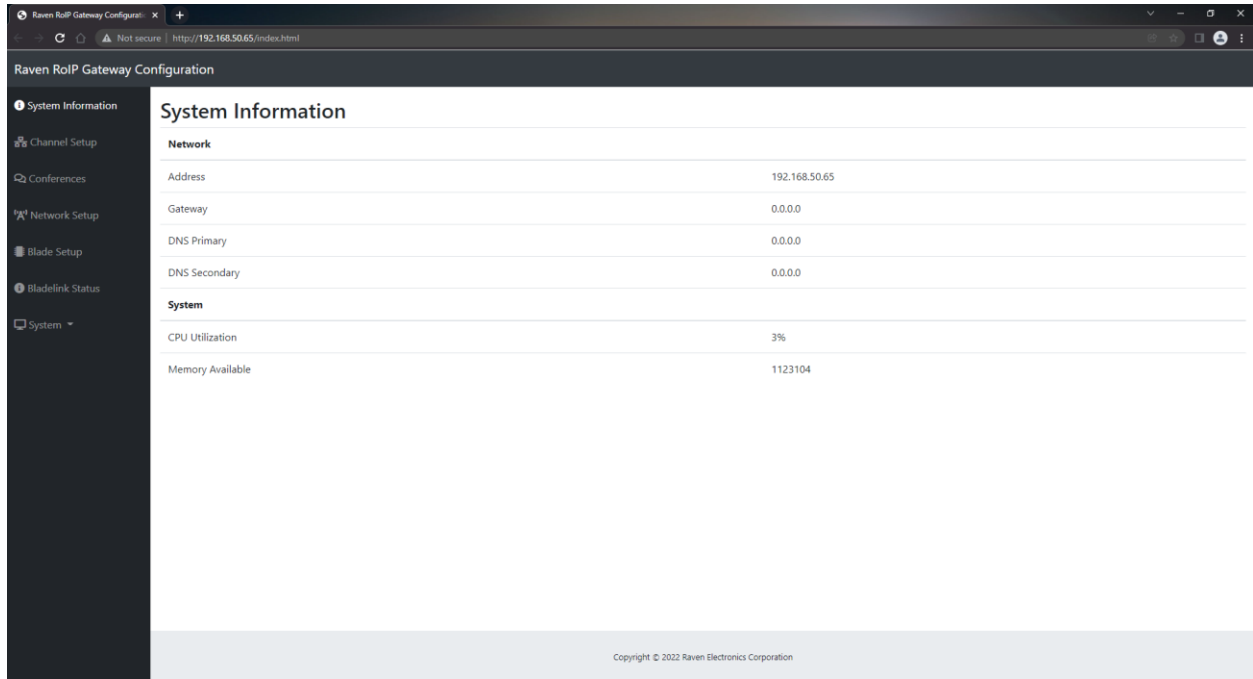

Figure 1-4: The “System Information” page that will pop up once correctly connecting to 192.168.50.65 and entering the correct credentials.
9. Figure 1-4 shows the “System Information” page that will be brought up once entering the correct username and password.